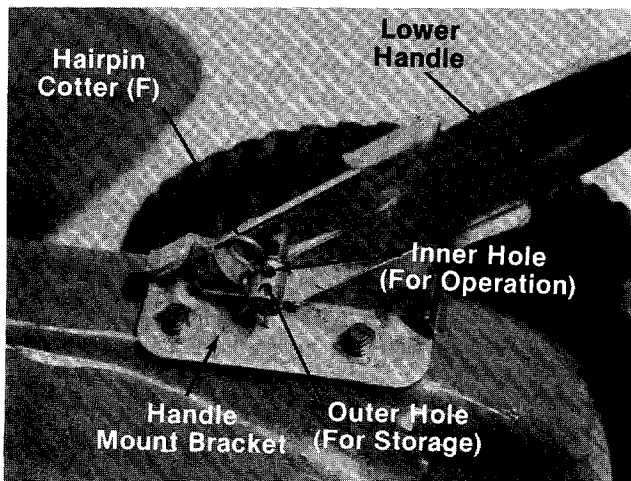

FIGURE 2.
- A (2) Hand Knobs
- B (2) Curved Carriage Bolts 5/16-18 x 1.75" Long
- C (2) Hairpin Cotter
- D (4) Cable Ties
- E (2) Lock Washers 5/16" I.D.
- F (2) Hex Nuts 5/16-18 Thread
3. Place lower handle in position over weld pins in handle mount brackets on deck. Make certain the instruction label on the lower handle can be read from the operating position. Secure by placing two hairpin cotters (C) in inner hole on weld pins. See figure 2.